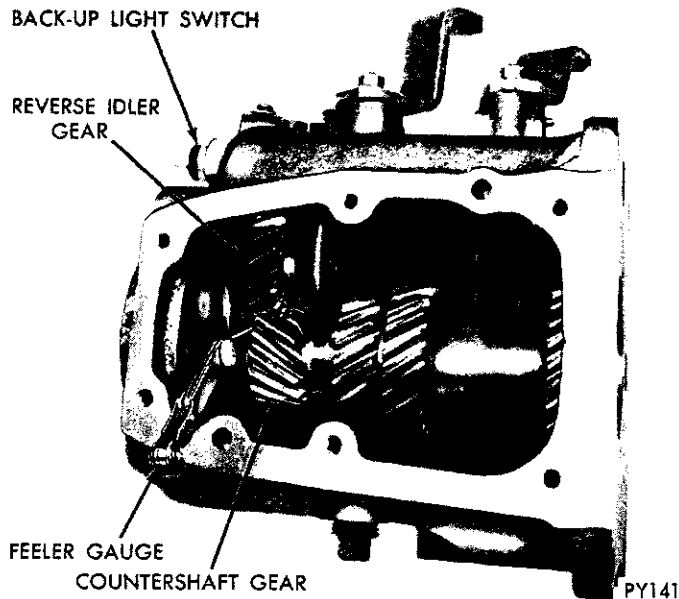

Fig. 26—Checking Countershaft Gear End Play
- (1) Using a feeler gauge, measure end play of countershaft gear (Fig. 26). The end play should be .005 to .022. (This measurement will determine if new thrust washers are to be installed at reassembly.)
- (2) Using countershaft bearing arbor, Tool C-578 for A-903 transmission drive countershaft toward rear
(1) Position arbor Tool C-464 in reverse idler gear and using heavy grease, install 22 roller bearings in gear.
(2) Place front and rear thrust washers at each end of reverse idler gear, and position assembly in transmission case with chamfered end of gear teeth toward front (Fig. 26).
(3) Insert reverse idler shaft into bore at rear of case with keyway to rear, pushing arbor toward front of transmission.
(4) With keyway aligned with recess in case, drive shaft forward, inserting key before keyway is obscured. Continue driving shaft forward until key seats in recess.